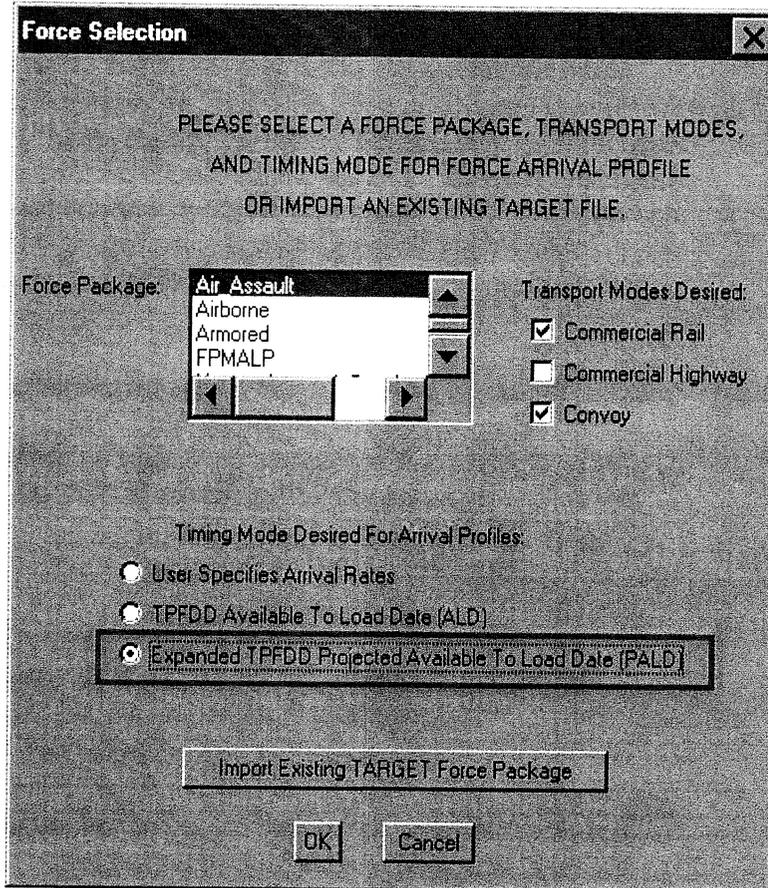

Figure 5: Deterministic Cargo Arrival — Option 3
1. When creating a new scenario or modifying an existing scenario, make the following series of choices on the PORTSIM menus and windows (Figure 5):